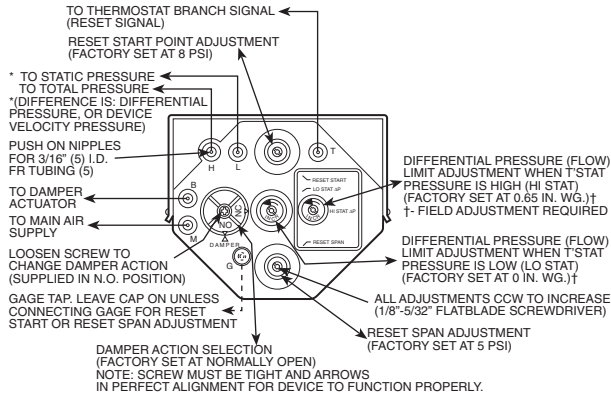

Fig. 8 — CSC-3011 Controller
Volume controller for units is shown in Fig. 8.
1. Damper action is factory set at NO (normally open), or NC (normally closed). To reselect loosen damper selection switch screw and align pointer with damper pointer and tighten screw. The spring range of the actuator is not critical since the controller will output the necessary pressure to the actuator to position the damper according to set point. (See Fig. 8.)